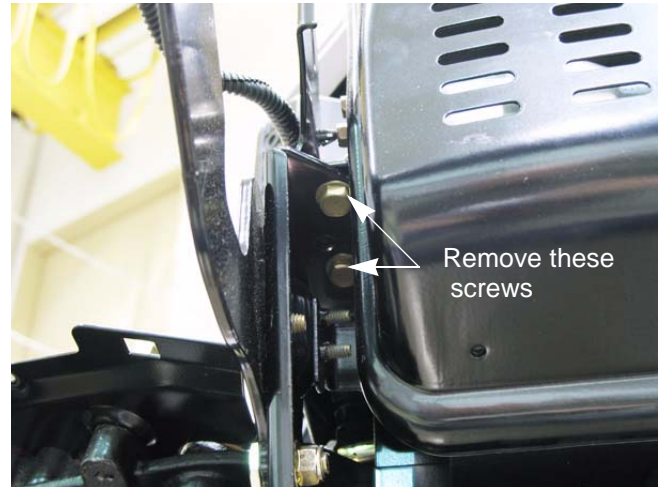

Figure 2.2
3. Remove the hood pivot brackets by removing the two screws that secure each one in place. See Figure 2.2.